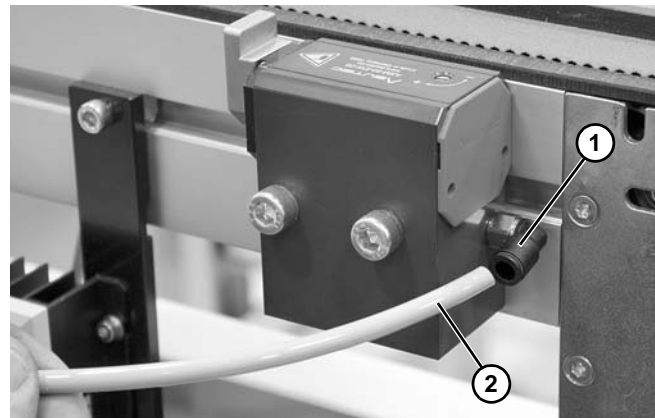

Figure 29
2. Connect the 3-port, 2-way solenoid valve to the stop. Dorner fittings (**Figure 29, item 1**) accept 1/4" outside diameter tubing standard (**Figure 29, item 2**).